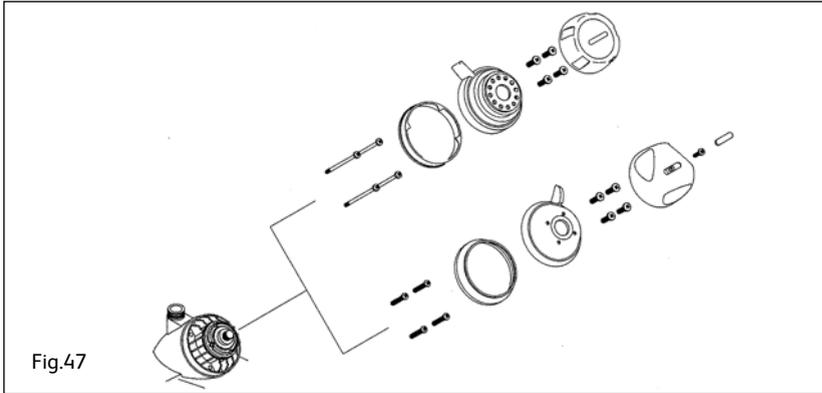

Fig.47
21. Refit the On/off control as appropriate for your model (Fig.47).